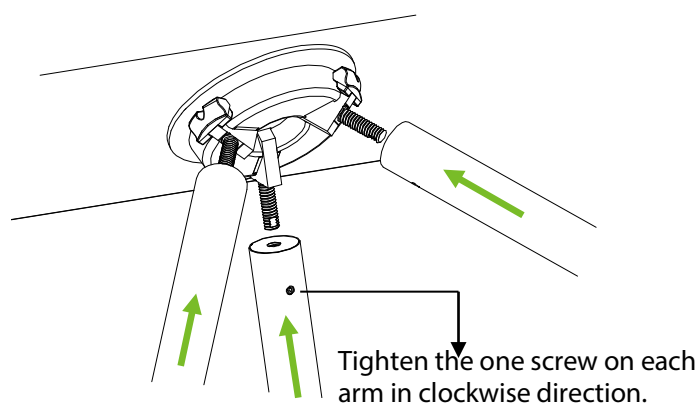

Figure 2-2
2. Rotating the arms to the connection points until it was fastening, and use the Hex key to fasten the one screw on each arm, as shown in Figure 2-2.